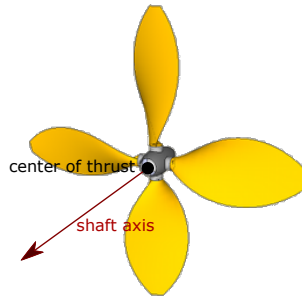

Figure 3.34: Propeller
- `shaftAxis`: defines the axis along which the resultant thrust and torque will be exerted, see figure 3.34.
- `centerOfThrust`: defines the point where the generated thrust applies, see figure 3.34.